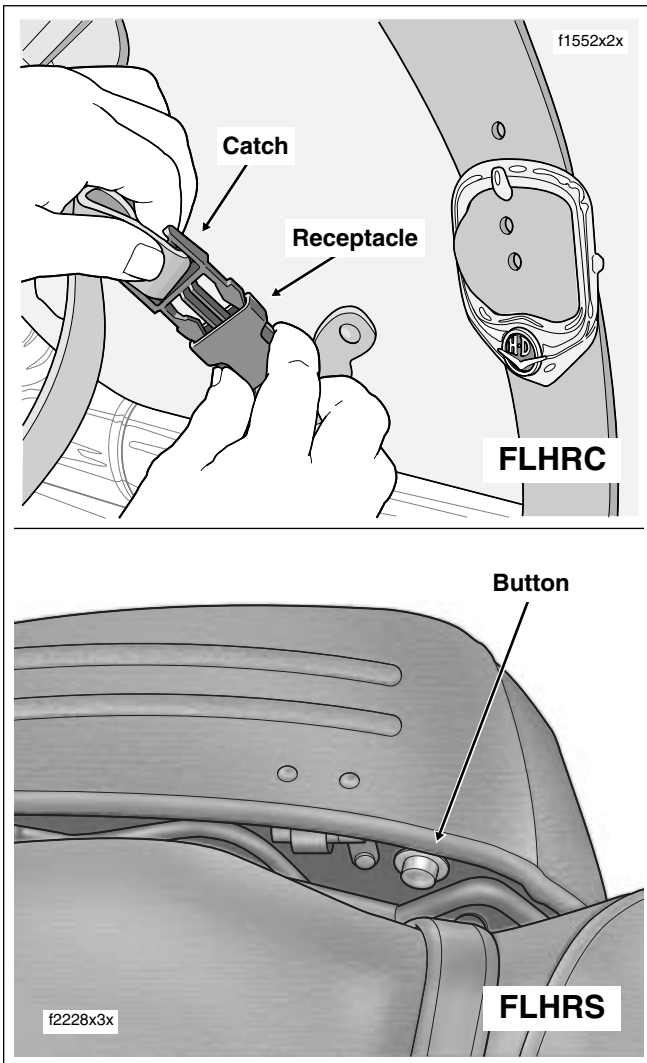

Figure 2-134. Open Saddlebag (FLHRC/S)
1. Raise the decorative buckle and press tabs on both sides of catch to release from receptacle. Repeat step to release second catch. See upper frame of Figure 2-134.
1. Depress button on front inboard side of saddlebag, and while holding button in, raise lid. See lower frame of Figure 2-134.
- Insert catch into receptacle until tabs fully engage. Repeat step to secure second catch. See upper frame of Figure 2-134.